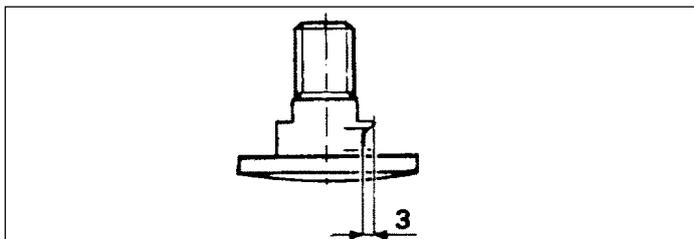

Fig. 23
- the **fixing screw** has become worn in the zone where it holds the knife: if the diameter is 3 mm / 0.11 inches less than the original diameter (fig.23).